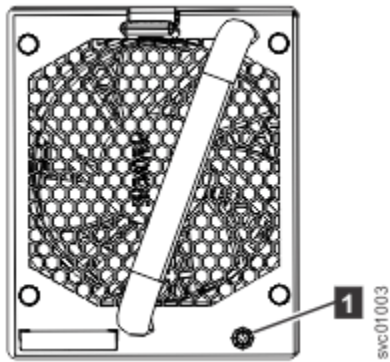

Figure 137. Fan module LED
**Important:** Because this task is disruptive to the storage system, always attempt fan replacement first. See “Removing and replacing a fan module” on page 183 for information about the removal and replacement procedures. Ensure that both fans are installed correctly. Perform the following procedure only if the amber fault LED on each fan remains lit (**1** in Figure 137 on page 186).